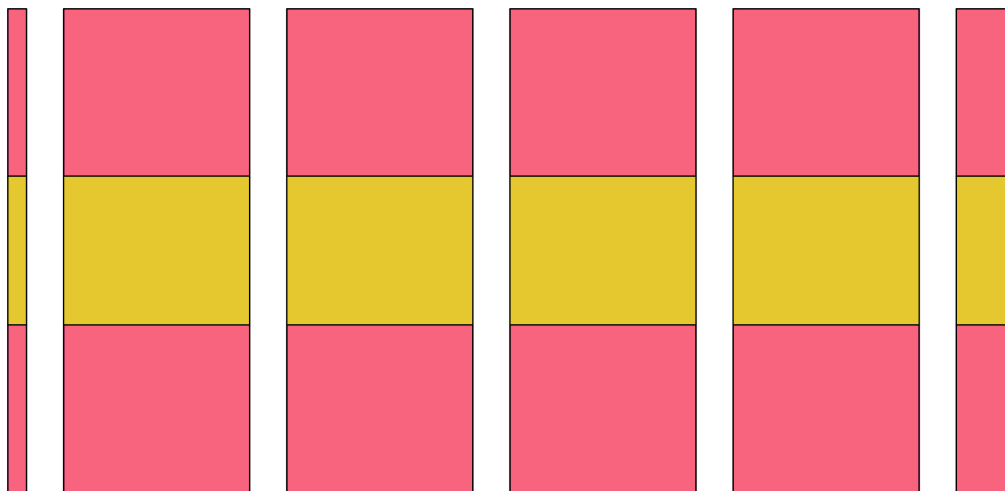

Figure 18
19. Trim approximately 1/4" off of the end of the constructed strip to ensure the end of the component is even. To ensure the cut is perpendicular to the seams, align a marked line on the ruler to one of the sewn seams before cutting. Starting at the trimmed end of the strip, cut four components 2-1/2" wide. (Figure 18)